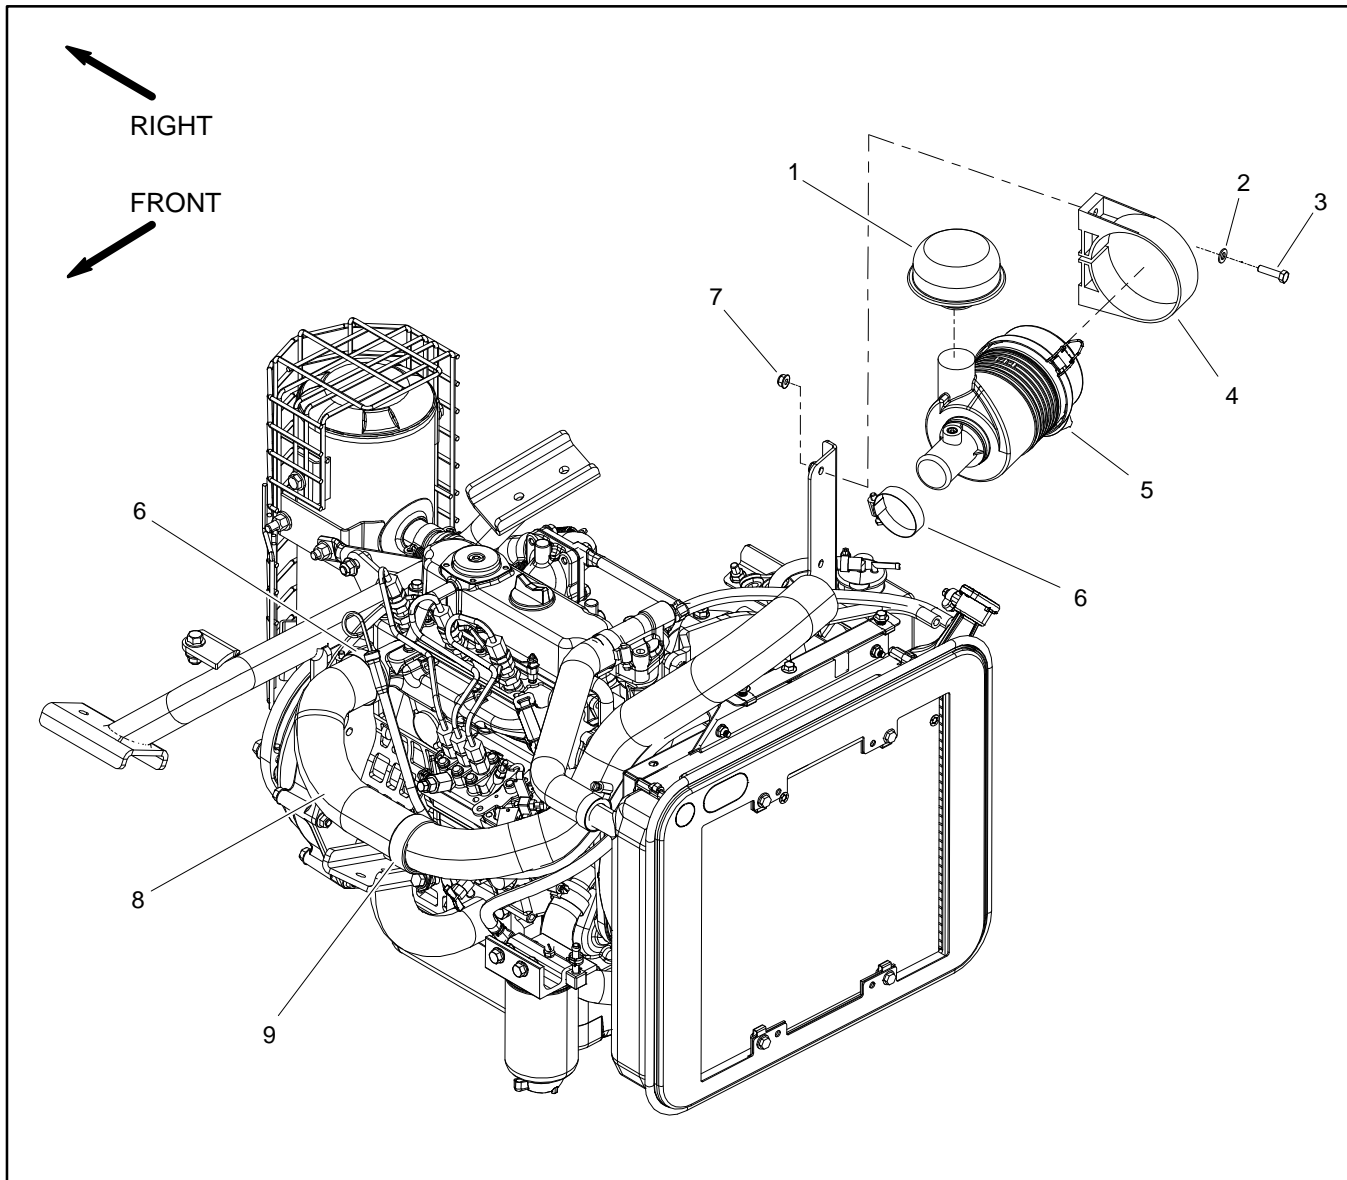
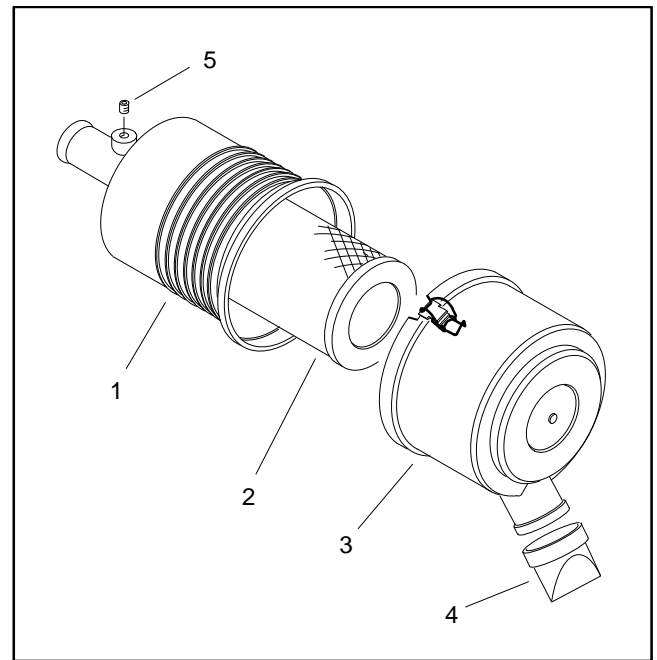

Figure 3
Figure 4
Air Cleaner Removal (Fig. 3)
2. Remove air cleaner components as needed using Figure 3 as a guide.
3. Check air intake hose (item 8) for damage or wear. Replace hose if damage is found.
4. Disassemble air cleaner as necessary (Fig. 4).
Air Cleaner Installation (Fig. 3)
1. Assemble air cleaner system using Figures 3 and 4 as guides.
- C. Make sure that air intake hose (item 8) has clearance around it at all points after air cleaner installation is completed.